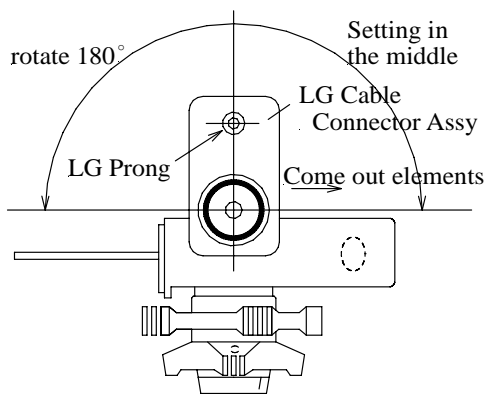

Fig.5-1-8
- 1) Set LG connector Assy in the middle as shown in Fig.5-1-8.